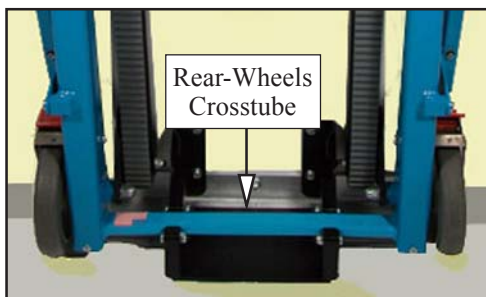

Figure 13 - Chair Crosstube in Bracket
2. Hold the chair with the folded seat facing you and rest the rear-wheels crosstube in the cradle of the bottom bracket (Figure 13).